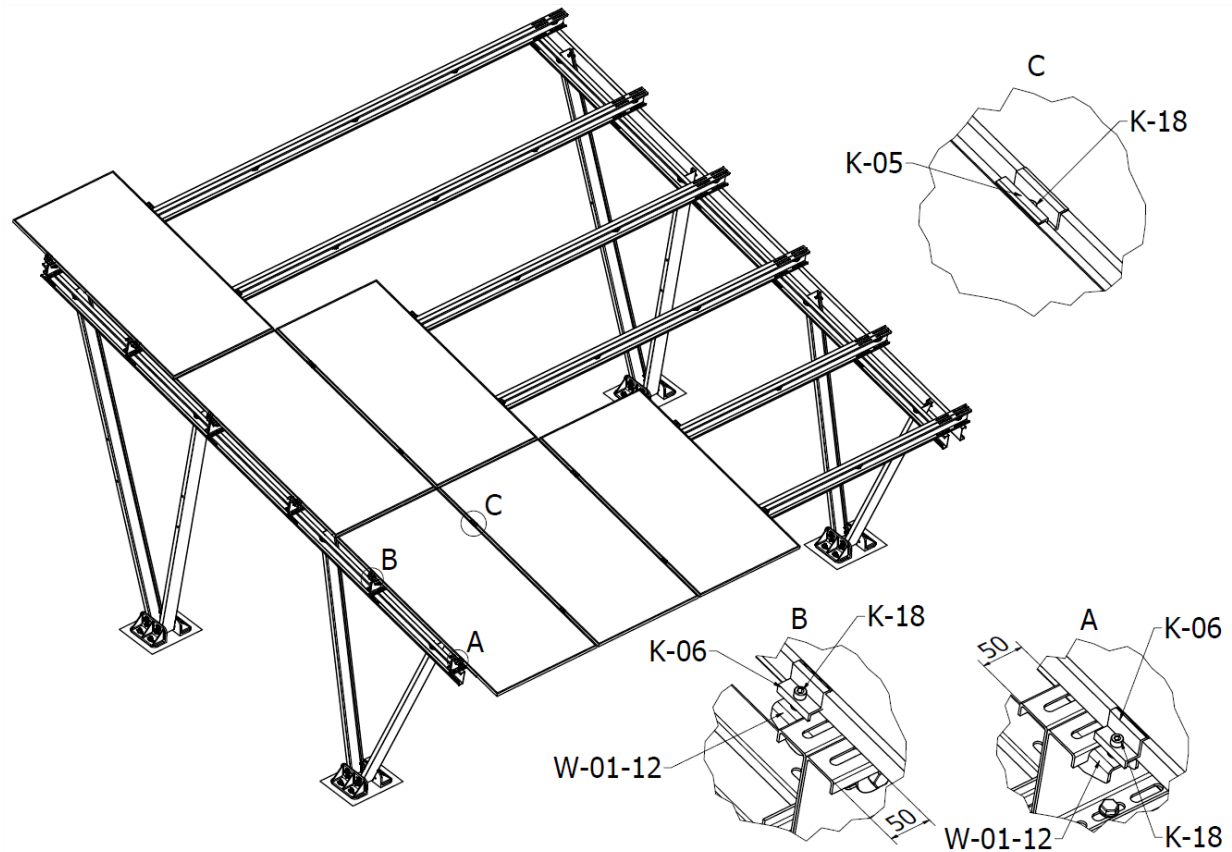

FIG.13 Assembling photovoltaic modules
11. In the next step, proceed to assemble the photovoltaic modules using the brackets (W-01-12), the middle clamps (K-05), the end clamps (K-06) and the Allen screws (K-18-35) — reference (FIG.13).